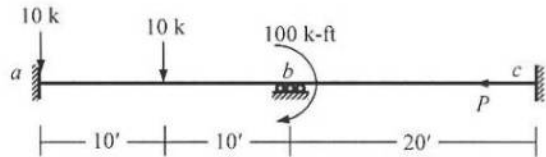

Fig. 6(ii)
7. Consider flexural deformations and geometric nonlinearity to calculate the joint deflections and rotations of the beam abc shown in Fig. 6(i), if $P = 300$ k.